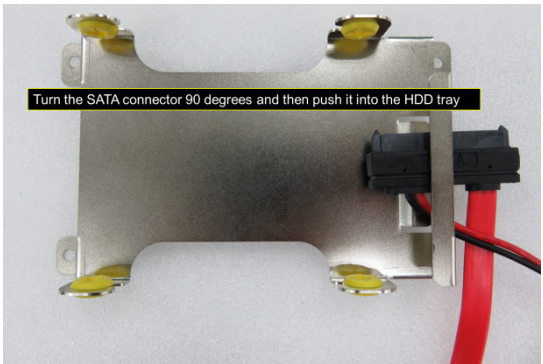

Figure 10
4.2.1.3 Turn the SATA connector clockwise by 90 degrees and gently insert the connector head into the opening on the HDD tray until it completely passes through the opening as shown in Figures 10 and 11.